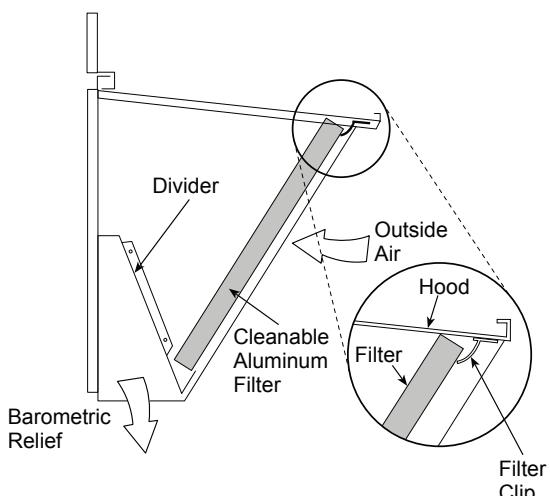

Fig. 13 – Economizer Filter Installation
5. Open the filter clips which are located underneath the hood top. Insert the aluminum filter into the bottom filter rack (hood divider). Push the filter into position past the open filter clips. Close the filter clips to lock the filter into place. See Fig. 13.